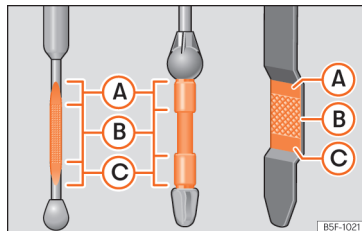

Fig. 194 Engine oil dipstick.
- Then pull it out once more and check the oil level **»»** **Fig. 194**. Top up with engine oil if necessary.
- When the oil level reaches at least zone »» **Fig. 194 (B)**, unscrew the engine oil filler cap carefully »» **ⓘ**.
If the oil level is above area »» **Fig. 194 (A)**, do not start the engine. This could result in damage to the engine and catalytic converter. Contact a specialised workshop.
The oil level must never be above zone »» **Fig. 194 (A)**. Otherwise oil can be drawn in through the crankcase breather and leak into the atmosphere via the exhaust system.